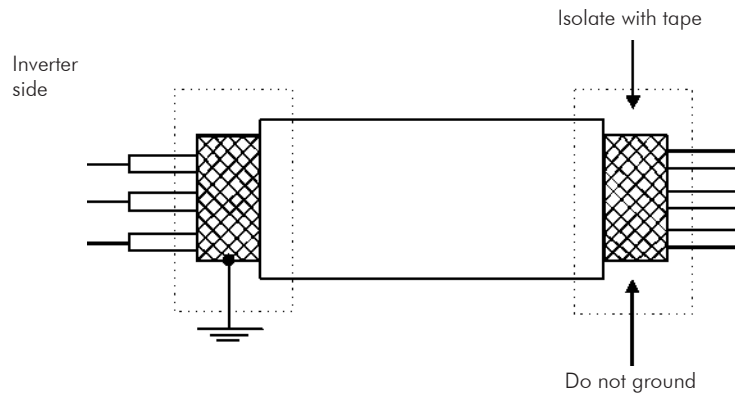
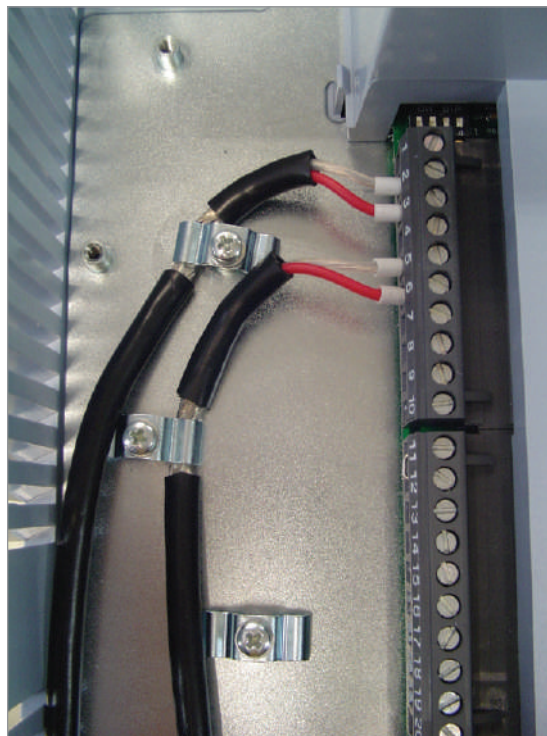

Figure 3.19 - Shield connection
Figure 3.20 - Example of shield connection for the control wiring
4. The adequate connection of the cable shield is shown in Figure 3.19 on page 3-31 and Figure 3.20 on page 3-31 shows how to connect the cable shield to the ground.
- ☑ Use shielded cables connected to ground only on inverter side. Use the provided metallic pieces as shown on Figure 3.20 on page 3-31.